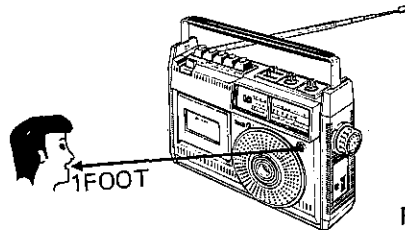

Fig. 8
5. Speak in a normal voice at a distance of approximately 1 foot away from the unit (Fig. 8).